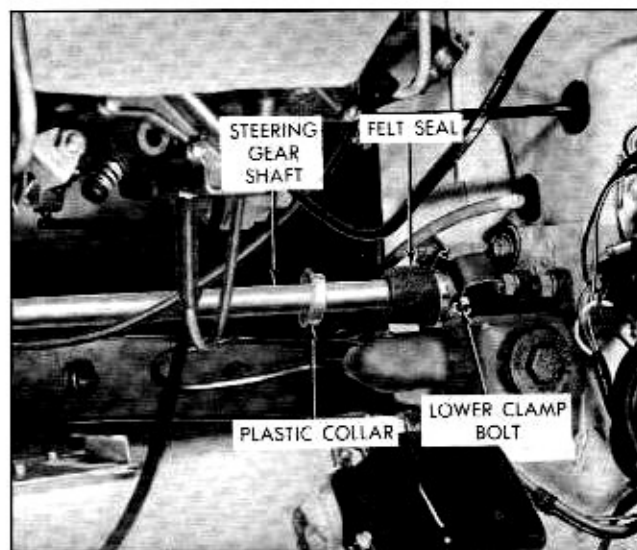

Fig. 9-9—Steering Shaft and Jacket
2. Loosen lower steering column jacket clamp (Fig. 9-9).
1. Install shaft, with felt seal and plastic collar, (Fig. 9-9) into steering column and secure gear to side rail with three bolts and spacers. Torque bolts